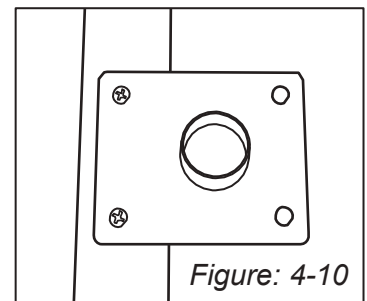

Figure: 4-10
- A. MOUNT FLANGE:** Mount flange to desired location on wall stud or floor using appropriate size screws to provide a firm mount. Figure: 4-10 Do not attach the fitting to the flange at this point. This will be done after the fitting to pipe connection has been completed. Insert pipe through the back of the flange after preparing pipe in accordance with steps 1 thru 3, **making sure to strip jacket to expose FIVE corrugations.**